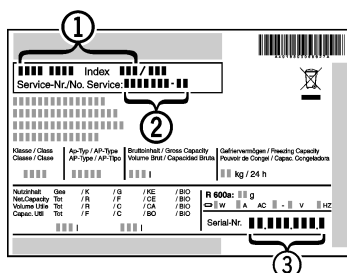

Fig. 12
- ▶ Read the appliance name *Fig. 12 (1)*, service no. *Fig. 12 (2)* and serial no. *Fig. 12 (3)* on the rating plate. The rating plate can be found on the inside of the appliance on the left.
- ▶ Notify our customer service team and give them the error, the appliance name *Fig. 12 (1)*, service no. *Fig. 12 (2)* and serial no. *Fig. 12 (3)*